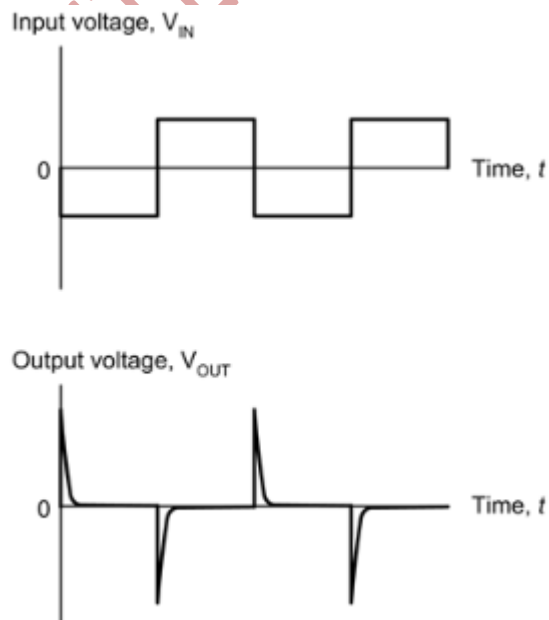

Fig 2.9. Typical input and output waveforms for a differentiator
- Typical input and output waveforms for a differentiator are shown in Fig. 2.9.